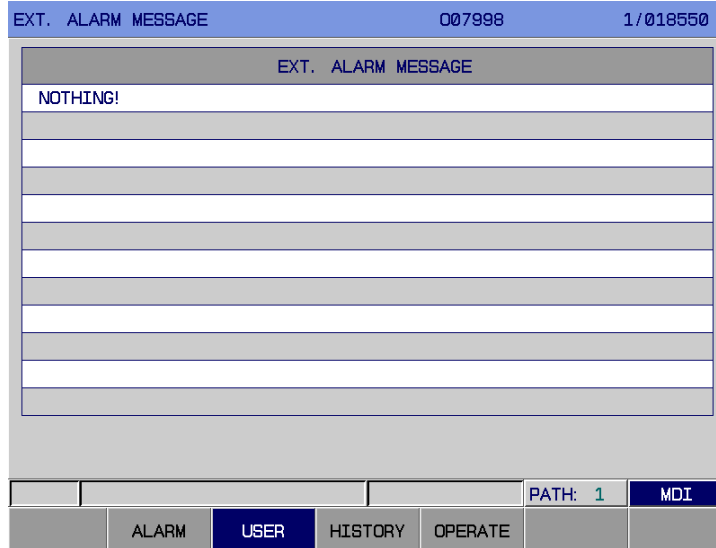

Fig. 3-7-2
2. User page In <ALARM> page, press soft key 【USER】 to enter external alarm page, as is shown in fig. 3-7-2.